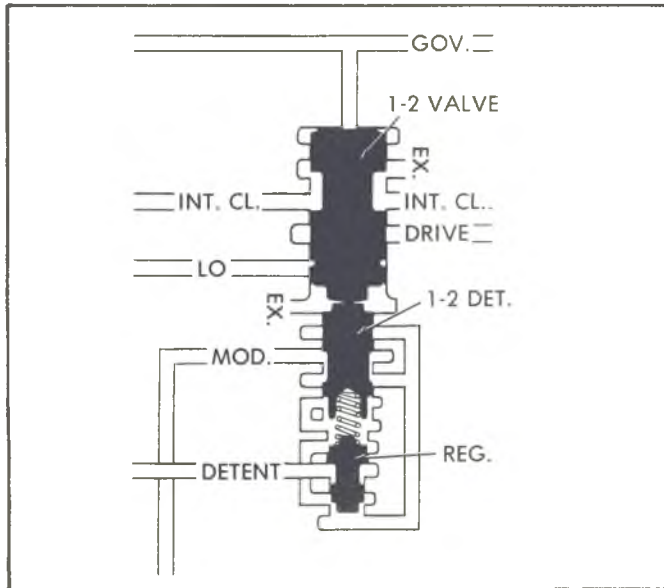

Fig. 11T-1-2 Shift Valve and 1-2 Detent Valve and Regulator Valve (Typical)
**1-2 Shift Valve (Fig. 11T)**
**Regulator Valve (Fig. 11T)**
**1-2 Detent Valve (Fig. 11T)**